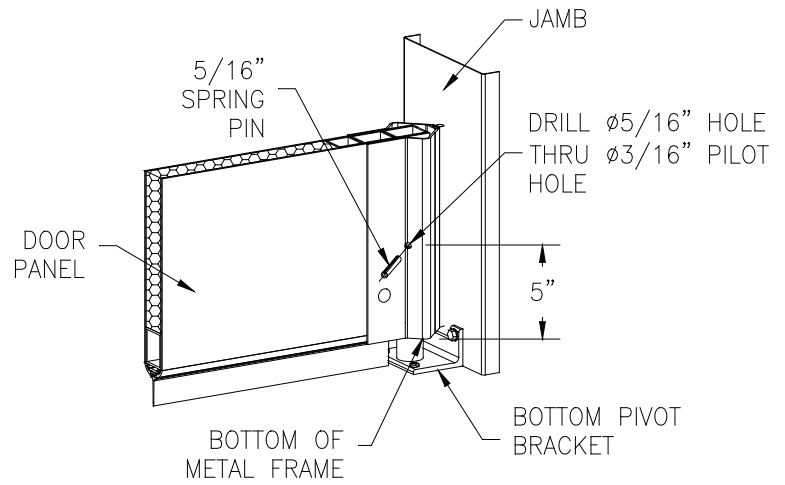

FIG. 6B
- b. **Insert Spring Pin** (Figure 6b).